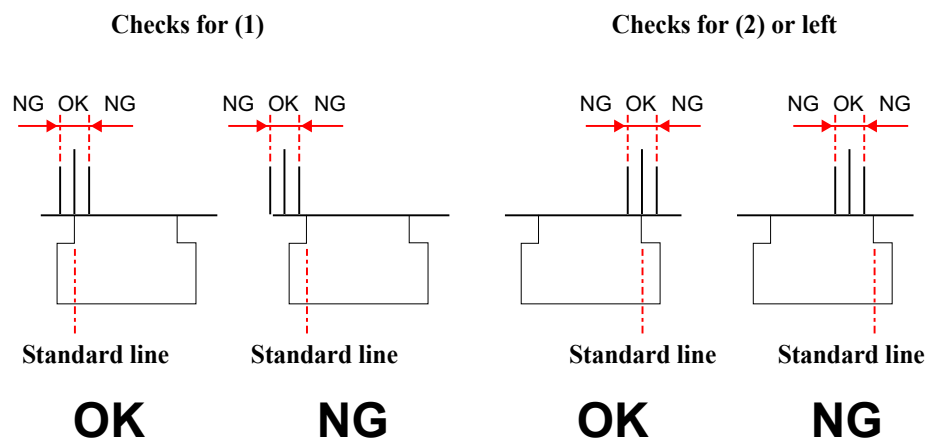

Figure 5-59. Adjustment pattern (zoom)
11. See Figure 5-59 and check if the standard line for the Waste Ink Pad for the borderless printing is within the OK range.